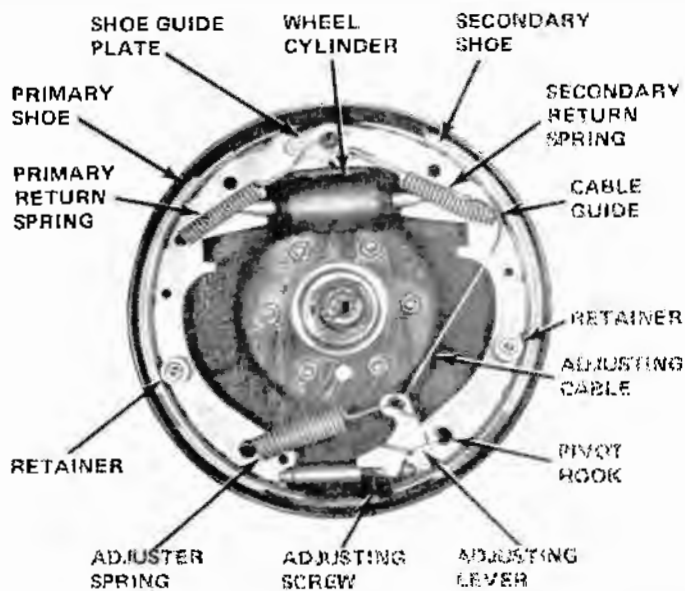
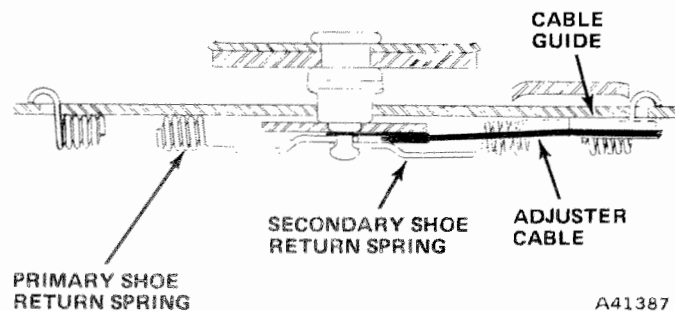

Fig. 9-22 Brake Assembly Components - Left Front
Fig. 9-24 Brake Shoe Spring Installation
The drum brake units consist of a support plate, two brake shoes, brake shoe return springs, adjuster operation parts, and a wheel cylinder (fig. 9-22, -23, -26).
(1) Before assembly lubricate support plate ledges, anchor pin, self-adjusting cable guide adjuster screw threads, and pivot with molydisulphide grease or chassis lubricant NLGI No. 2. Lubricate the parking brake cable lever located on the rear wheel secondary shoes.
(2) Position brake shoes on the brake support plate and install hold down springs.
(3) Place adjuster cable eyelet on anchor pin.
(4) Install primary return spring.
(5) Position cable guide and install secondary return spring (fig. 9-24).
(6) Install adjuster screw assembly. Place small hooked end of adjuster spring in large hole in primary shoe and place large hooked end of adjuster spring in adjuster lever.
(7) Place hooked end of adjuster cable over cable guide (fig. 9-22, -23).
(8) Grasp adjuster lever with pliers and hook adjuster lever tang in large hole in bottom of secondary shoe.